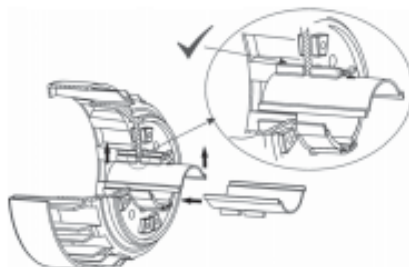

Fig. 8.3.2 A - Assembly of the sockets
- Insert the correct sockets couple (see appendix A), take care that the groove placed between the socket keys is fitted in the drive magnet assembly, this placement guarantees the correct assembling and the unfitting of the sockets (Fig. 8.3.2 A).
- Insert the collars in the drive magnet assembly tang, see Fig. 8.3.2 B for the correct placement.